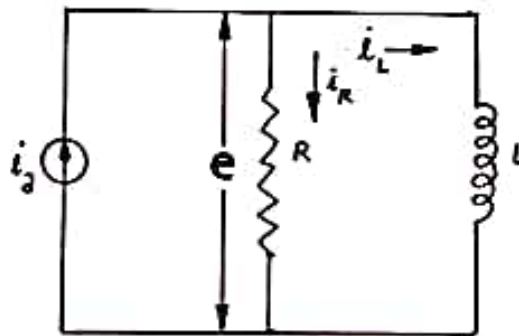

Fig.4.9.
**Q.4.2.** Find system transfer function between the inductance current to the source current in the following RL circuit as shown in Fig.4.9.